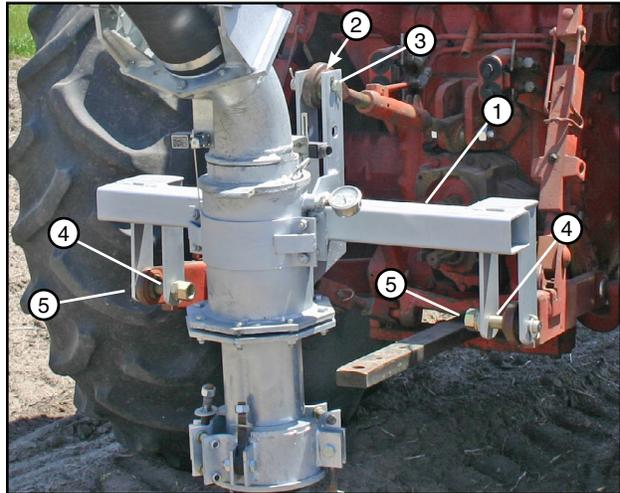

Figure 34-1 1. Tool Bar 4. 2-3/4 Bushing
14. When attaching the tractor's three point hitch to the tool bar on the small field pivot, do the following and make sure all three pins and bushings that secure tool bar to the three point hitch are properly engaged and secured before lifting pivot. See figure 34-1.